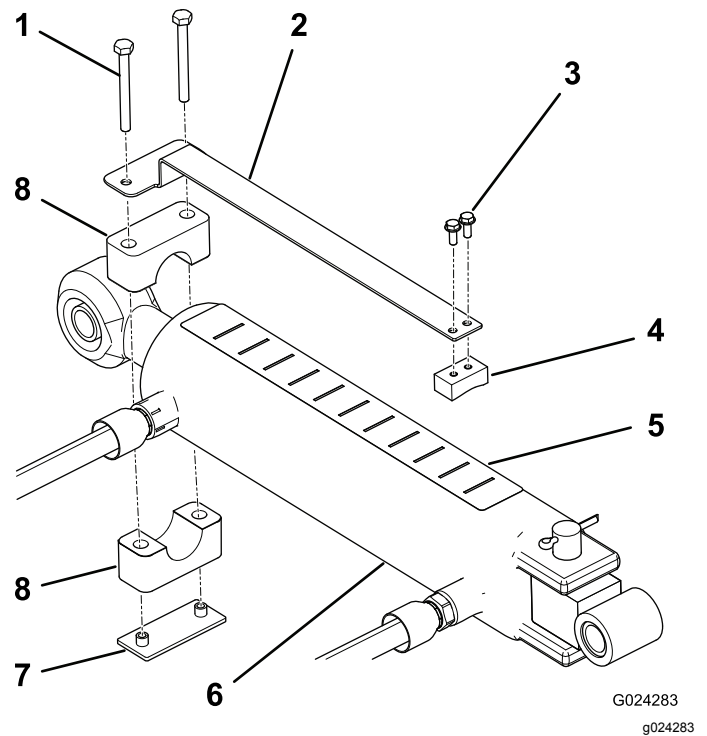

Figure 8
1. Mount the depth gauge to the flat side of the slide block with 2 machine screws (#10 x 1/2 inch), positioning the components as shown in Figure 8.
2. Using the tube clamp, weld plate and 2 screws (1/4 x 2-1/2 inches), loosely mount the depth gauge to the rod end of the top link cylinder (Figure 8). Make sure that the clamps are loose enough to allow them to rotate to the desired position.
4. Affix the depth decal to the top of the cylinder at a location that is visible from the operating position and does not interfere with hydraulic hoses or other obstructions (Figure 8). Align the end of the decal with the letter "J" toward the aerator.